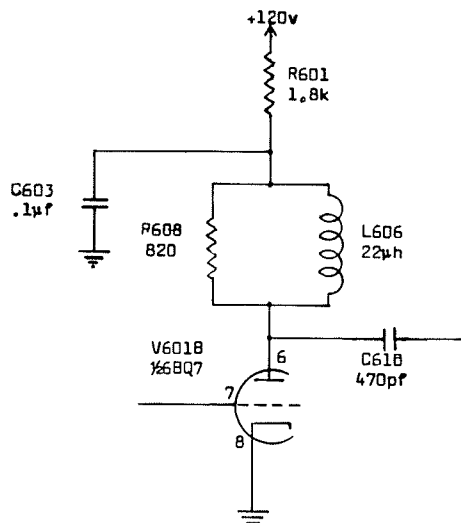

Figure 5. Type 524D/524AD Time-Mark Generator for serial numbers 1843 and up (partial schematic).
2. Refer to Figure 5. Decouple the 120 v plate supply of V601B by adding a 1.8k, 1w, 10% composition resistor (Tek no. 304-182) and a 0.1 μ f, 500 v discap (Tek no. 283-008) as shown in Figure 5.